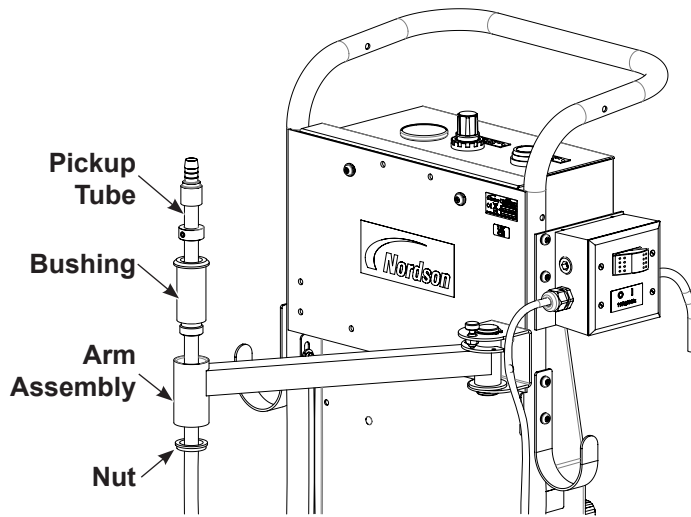

Figure 8 Install Pickup Tube into Arm Assembly
7. See Figure 8. Install the bushing and pickup tube into the arm assembly. Install and hand tighten the nut to secure pickup tube in place. Then, use a wrench to torque the nut 1/4 of a turn.